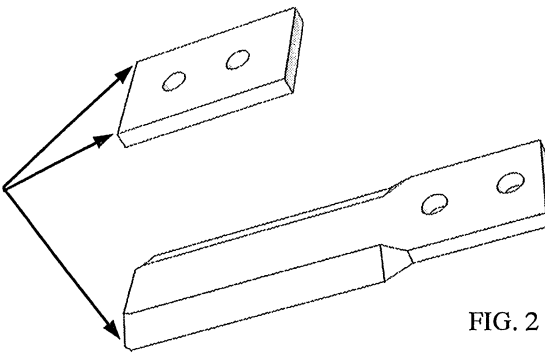

FIG. 2
- Check for wear blades; control mainly the edges (see fig. 2). Replace if necessary. Use only original parts.